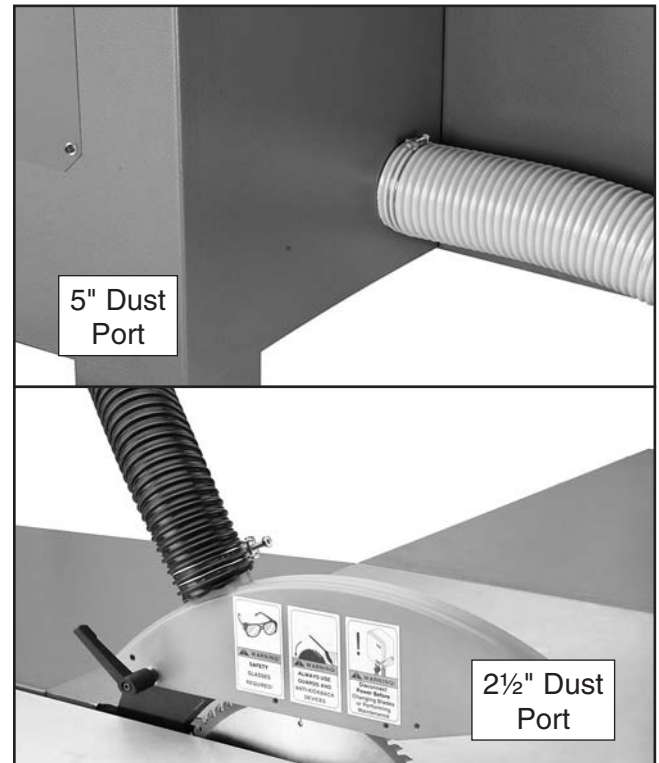

Figure 46. Dust port locations.
1. Run a 5" hose from the dust collector to the dust port located under the saw table (**Figure 46**) and secure it with hose clamps.
2. Install the blade guard/dust hood on the ripping knife with the adjustable handle and flat washer as shown in **Figure 46**.
3. Run a 2½" hose from the dust collector to the blade guard port (**Figure 46**) and secure it with hose clamps.